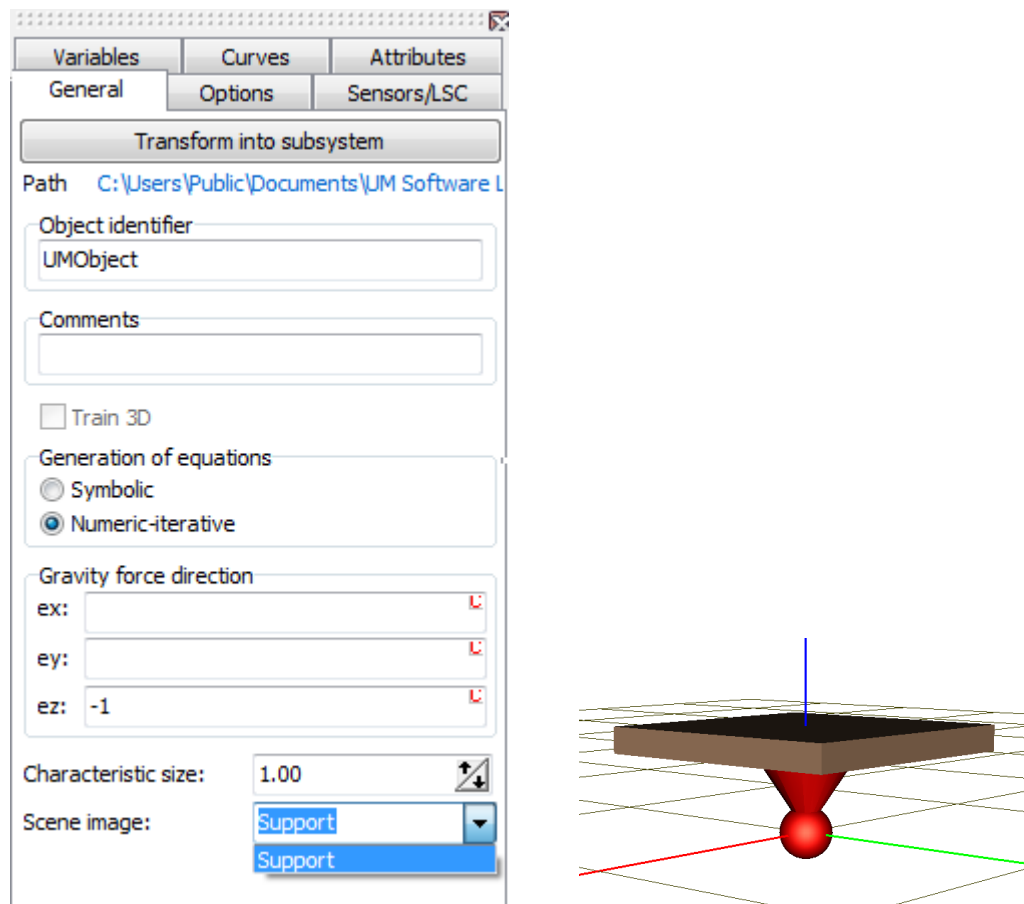

Figure 1.8. Scene image choice
2. Select **Support** in the **Scene image** list, see in Figure 1.8.